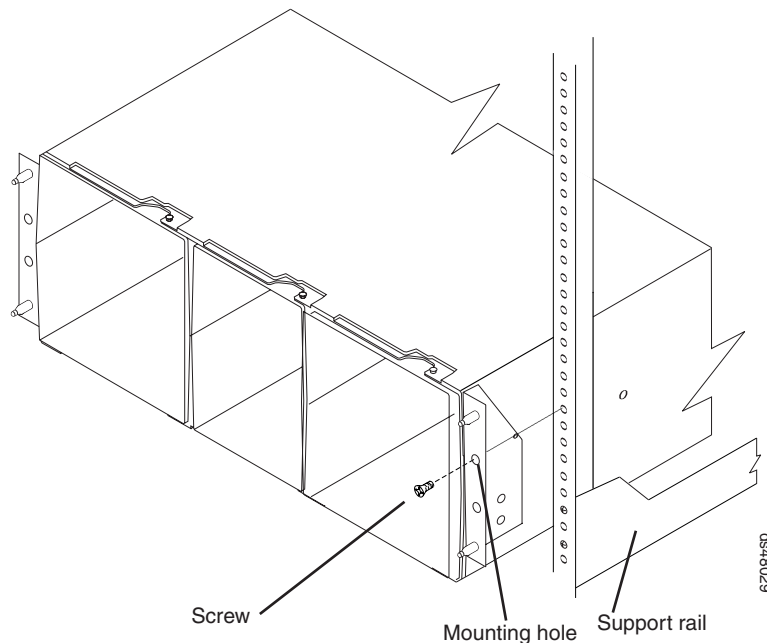

Figure 20. Securing the DS4800 to the rack cabinet
1. Remove the empty DS4800 Storage Subsystem from the shipping box and set the storage subsystem in the cabinet. Figure 20 shows the correct orientation of the empty storage subsystem to the cabinet and support rail.
2. Secure the storage subsystem to the cabinet. Figure 20 shows how to secure the DS4800 to the vertical members of the cabinet.